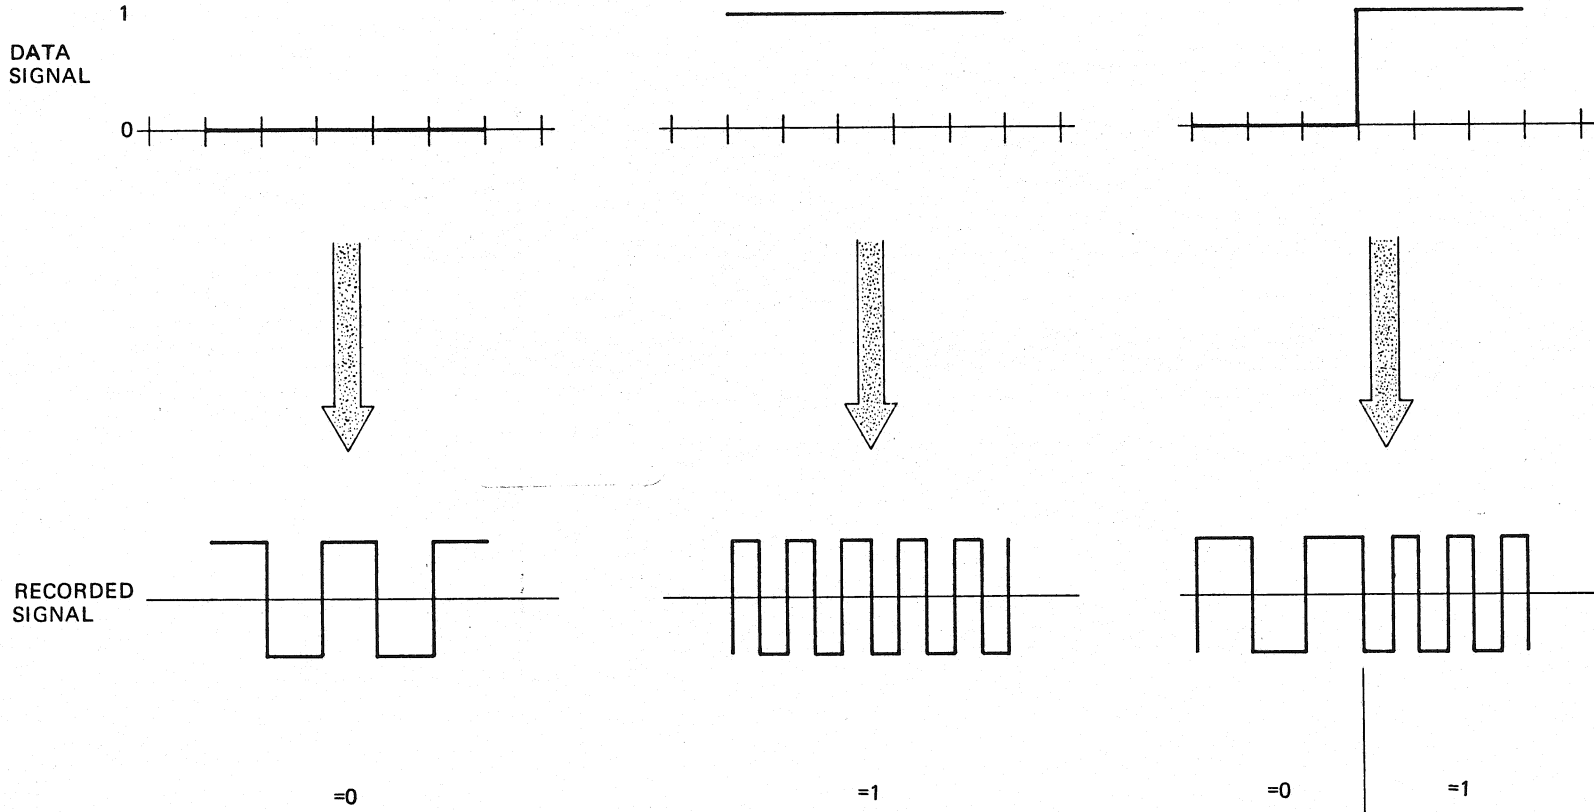

FIG 4
- BI-PHASE MARK Modulation Mode has proven to be extremely reliable and easy to synthesize. Its coding key is shown on Figure 4.